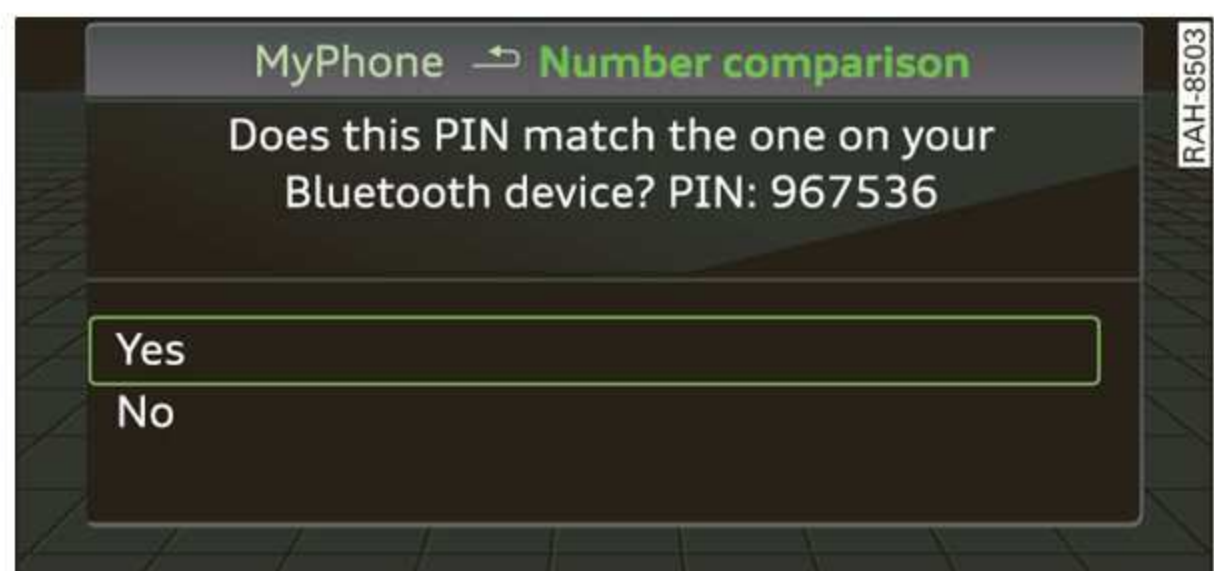

Fig. 109 Displaying the PIN for entering in the cell phone
- ▶ The MMI generates a PIN for the connection setup ⇒ *fig. 109*.